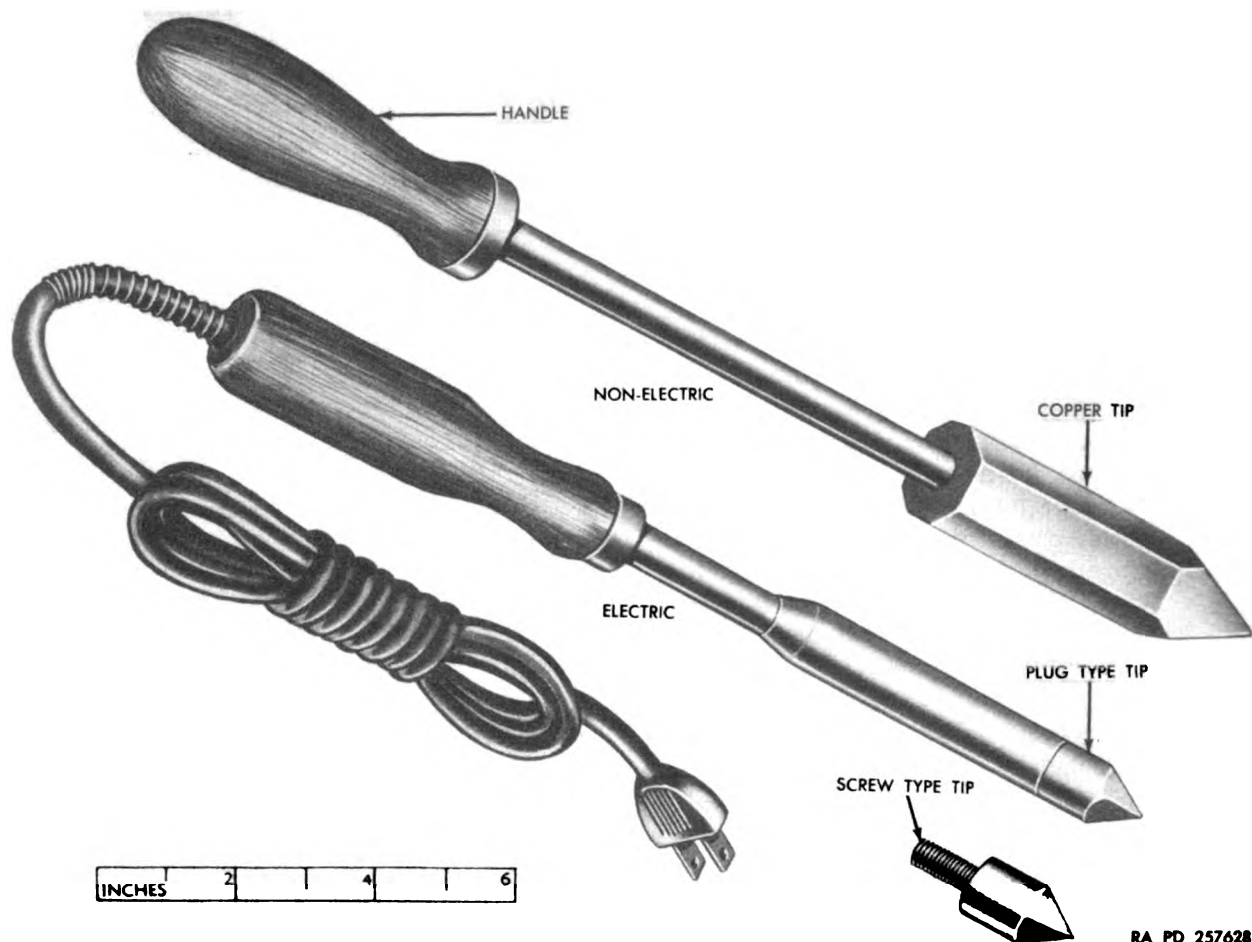

Figure 158. Soldering irons.
126. Purpose of Soldering Irons (fig. 158)
a. Electric Soldering Iron. The electric soldering iron (fig. 158) transmits heat to the copper tip after the heat is produced by electric current which flows through a self-contained coil of resistance wire, called the heating element. Electric soldering irons are rated according to the number of watts they consume when operated at the voltage stamped on the iron. There are two types of tips on electric
b. Nonelectric Soldering Iron. A nonelectric soldering iron (fig. 158) is sized according to its weight. The commonly used sizes are the $\frac{1}{4}$ -, $\frac{1}{2}$ -, $\frac{3}{4}$ -, 1-, $1\frac{1}{2}$ -, 2-, and $2\frac{1}{2}$ - pound irons. The 3-, 4-, and 5-pound sizes are not used in ordinary work. Nonelectric irons have permanent tips and must be heated over an ordinary flame, or with a blowtorch.